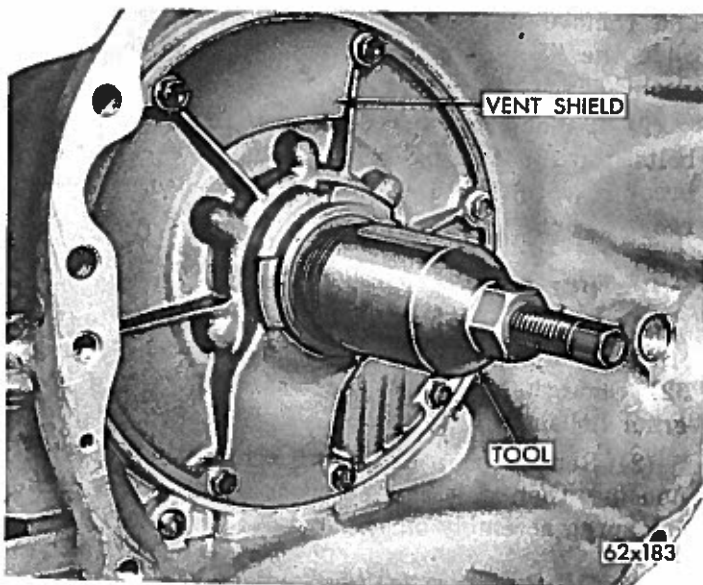

Fig. 42—Removing Front Pump Oil Seal (Tool C-3861)
(1) Screw seal remover, Tool C-3861 into the seal (Fig. 42). Tighten screw portion of tool to withdraw the seal.